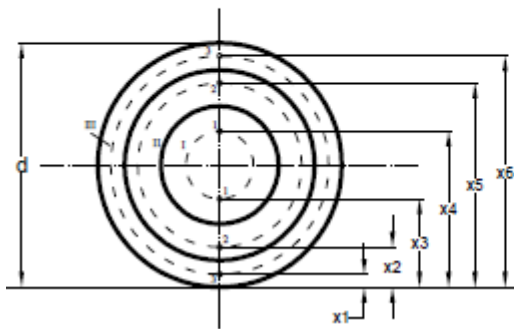

Fig 5.2: The division of a pipe cross-section into annulus with equal area
- Divide cross-section of the pipe into annulus with equal area I, II, III (see Fig. 5-2 and 5-3). Each annulus is divided into two equal parts (dash line). Points 1, 2, 3 on the dash line are average points of annulus I, II, III. Measured velocity at points 1, 2, 3 is mean velocity of areas I, II, III. Because of equally areas, mean velocity of points 1, 2, 3 is the average fluid flow velocity. The more number of annulus, the more precise value can be.